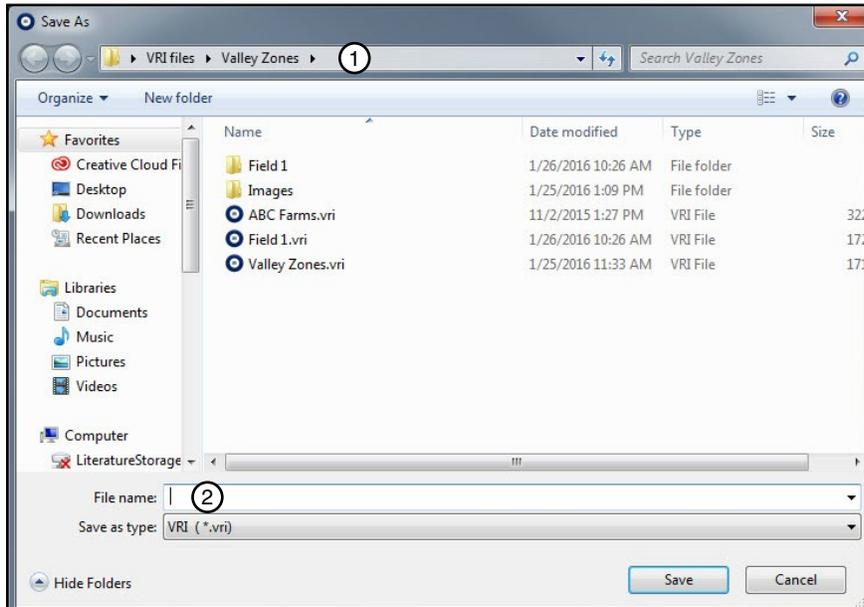

Figure 30-2 1. Folder Location 2. File Name Field
2. Locate the folder in which you want to save the new project; enter the new project name in the **File name** field, and click **Save**. See Figure 30-2.